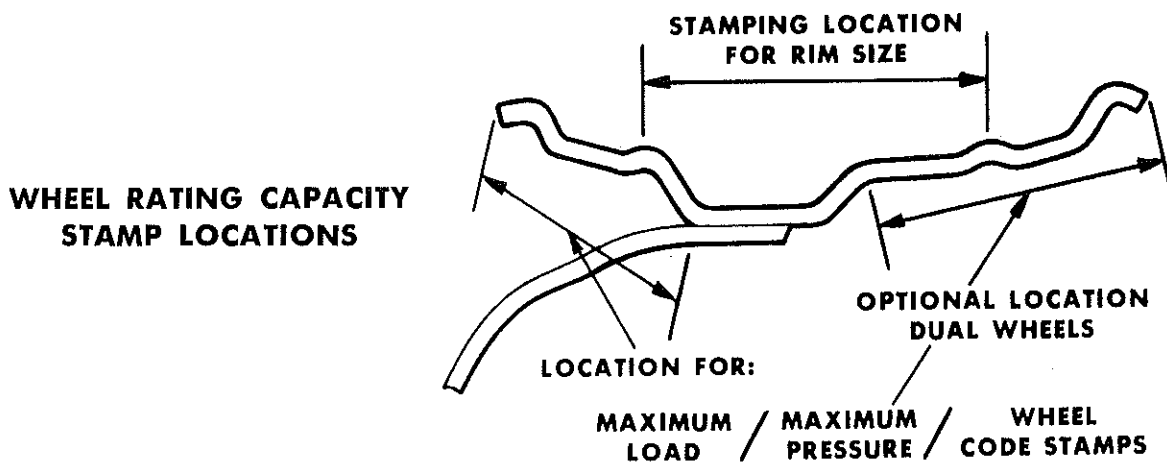

Figure 2
*See page 9, Fig. 2, for locations of wheel rating stampings.